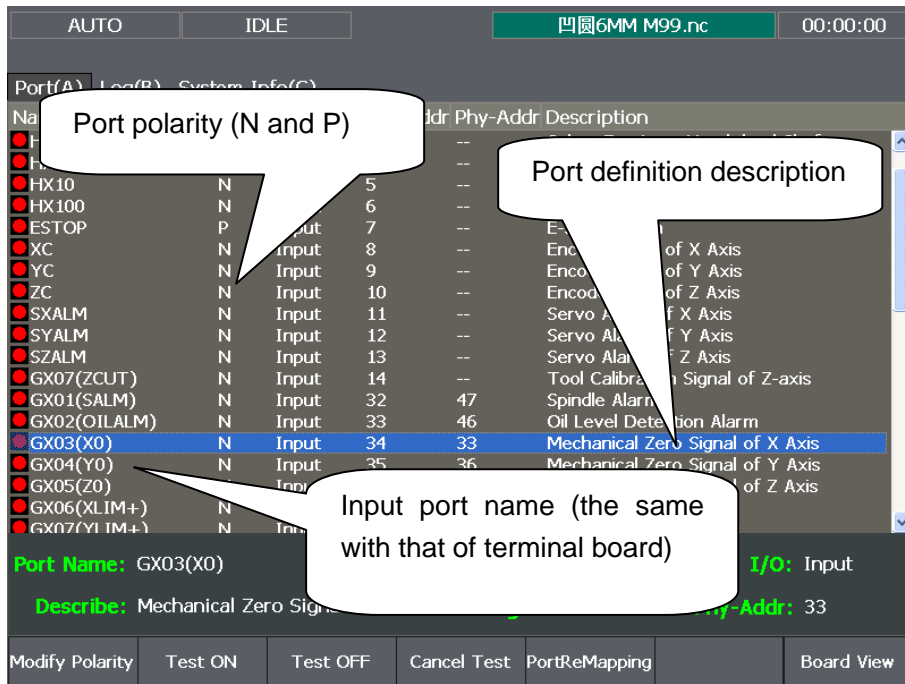

Fig. 3-13 Ports Screen
[Port (A)] screen is shown in Fig. 3-13, and the following function screens need password before operation, such as [Test On], [Test Off], [Cancel Test], and [Modify Polarity].